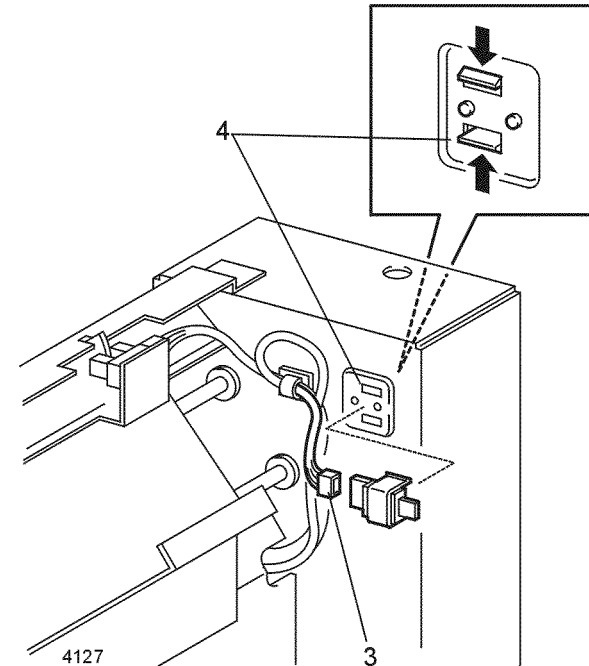

Figure 1 Interlock Switch
3. Disconnect P/J525 from the interlock switch (Figure 1).
4. Release the two locking tabs (Figure 1) and remove the switch.